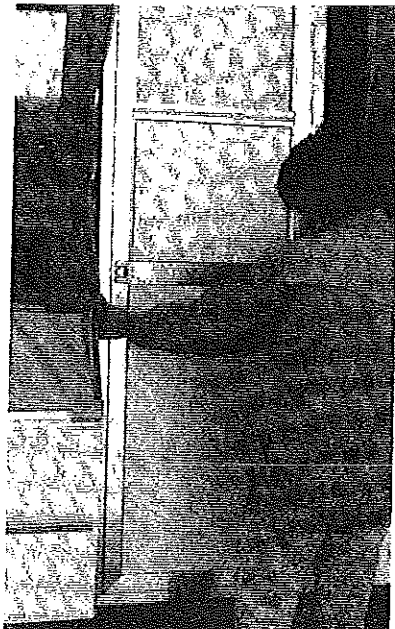

FIGURE 21
26. Grasping the door frame with both hands, one on either side, lower screen door into doorframe threshold at base of doorway. See Figure 21. Unlock screen door latch and step inside.